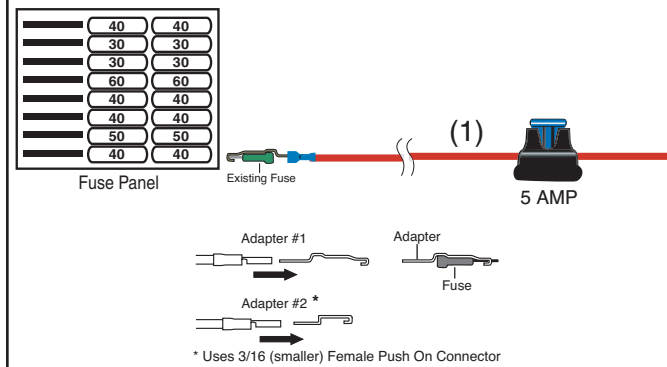

Figure 6
4. Choose the supplied fuse adapter that best suits your fuse panel (Figure 6).
6. Attach the chosen fuse adapter and to a keyed on ignition source on the fuse panel (Fig. 6).